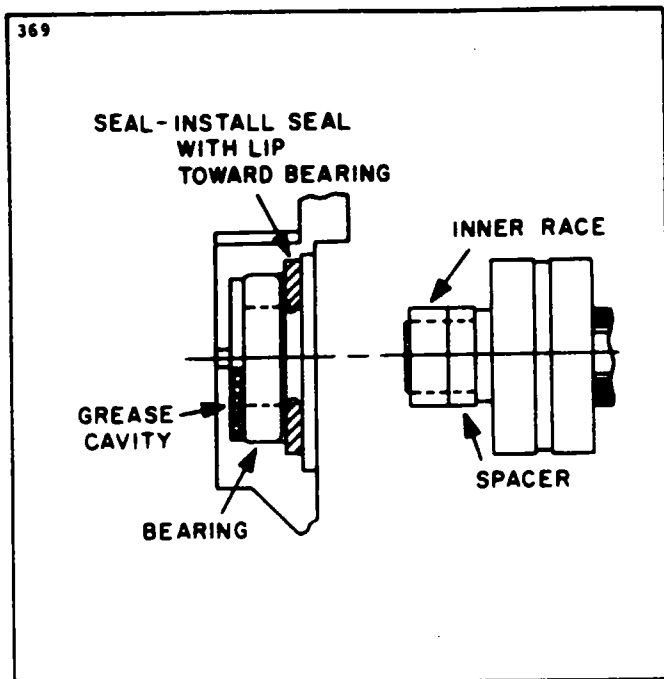

Figure 11-14. Slip Ring End Bearing Assembly
e. Install the slip ring end bearing and oil seal. Make sure the lip of the oil seal is toward the bearing. Correct assembly of bearing, seal, inner race and spacer is shown in Figure 11-14. Stake the seal in place.